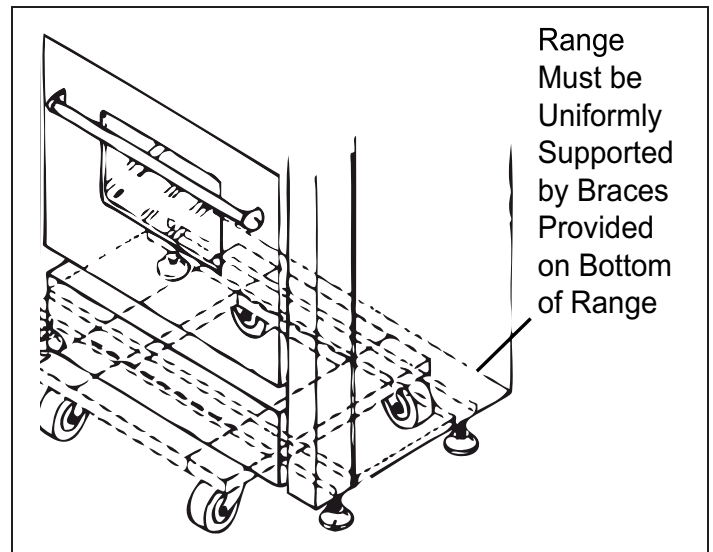

Figure 6: Dolly Positioning
- Due to the weight, a dolly with soft wheels should be used to move this unit. The weight must be supported uniformly across the bottom (See Figure 6).